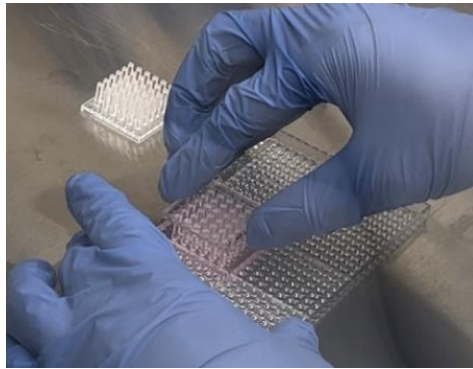

**Figure 2.** Dispensing 1.5 - 2 mL of the cell-alginate mixture per block in the LoadingPlate for rapid loading of the cells on the pillar plate.
- Place the LoadingPlate on a flat surface, dispense 1.5 - 2 mL of the cell-alginate mixture per small block, and spread it properly with the pipette tip (**Fig. 2**).